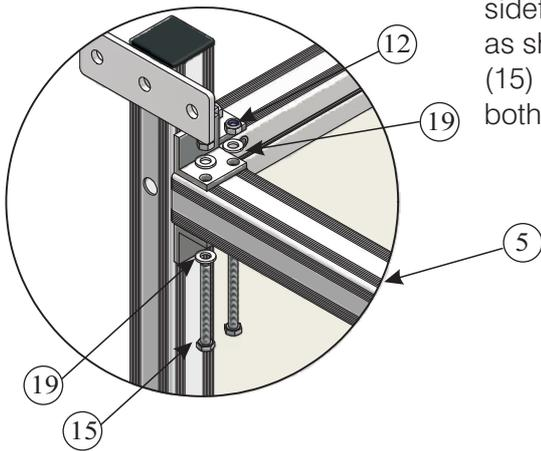

Figure 1.
1.) Attach the backbar (4) by sliding in-between the brackets on the sideframes and line up the holes. You will need 3 people for this as the sideframes need to be held with the uprights face down on the floor, as shown in Figure 2. When the backbar is in position, use 2 x BOL472 (15) to attach to the sideframes (Figure 1). Fix with a plastic washer both sides (19) and a nylock nut (12).